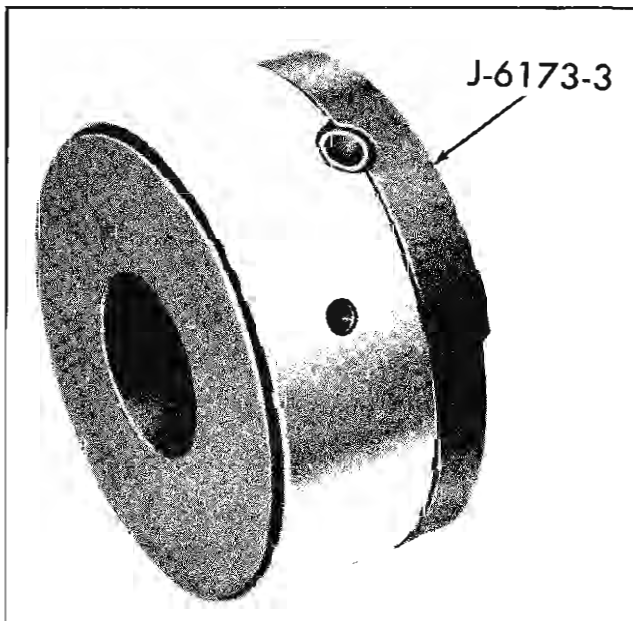

Fig. 6-46 Bearing Installed on Replacer Adapter
4. Coat outside of new bearing with oil and place it over Replacer Adapter J-6173-3, indexing notch in edge of bearing with pin on Replacer Adapter (Fig. 6-46).